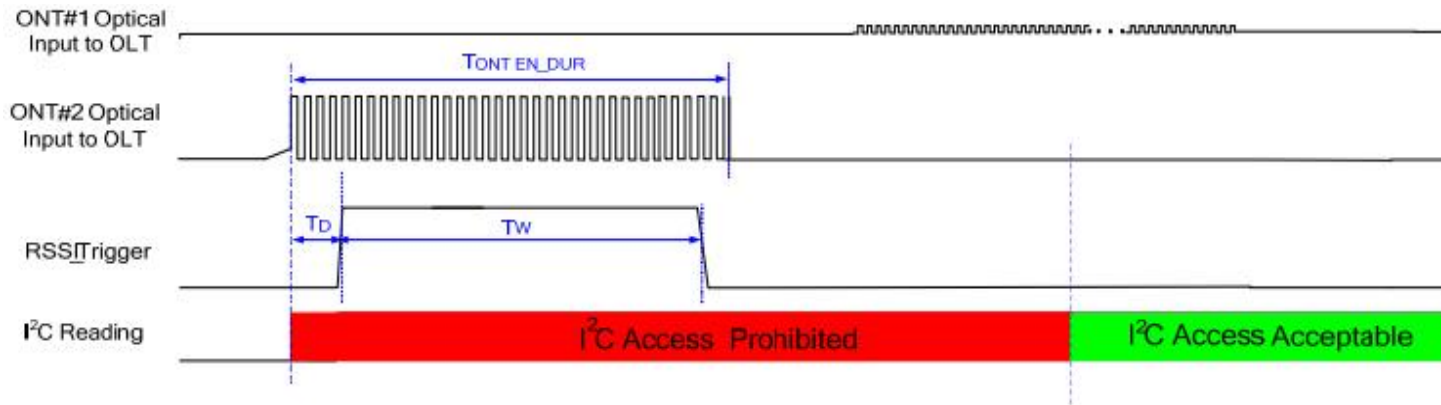

Figure 4 RSSI TIMING SEQUENCE
• Figure 4 RSSI TIMING SEQUENCE